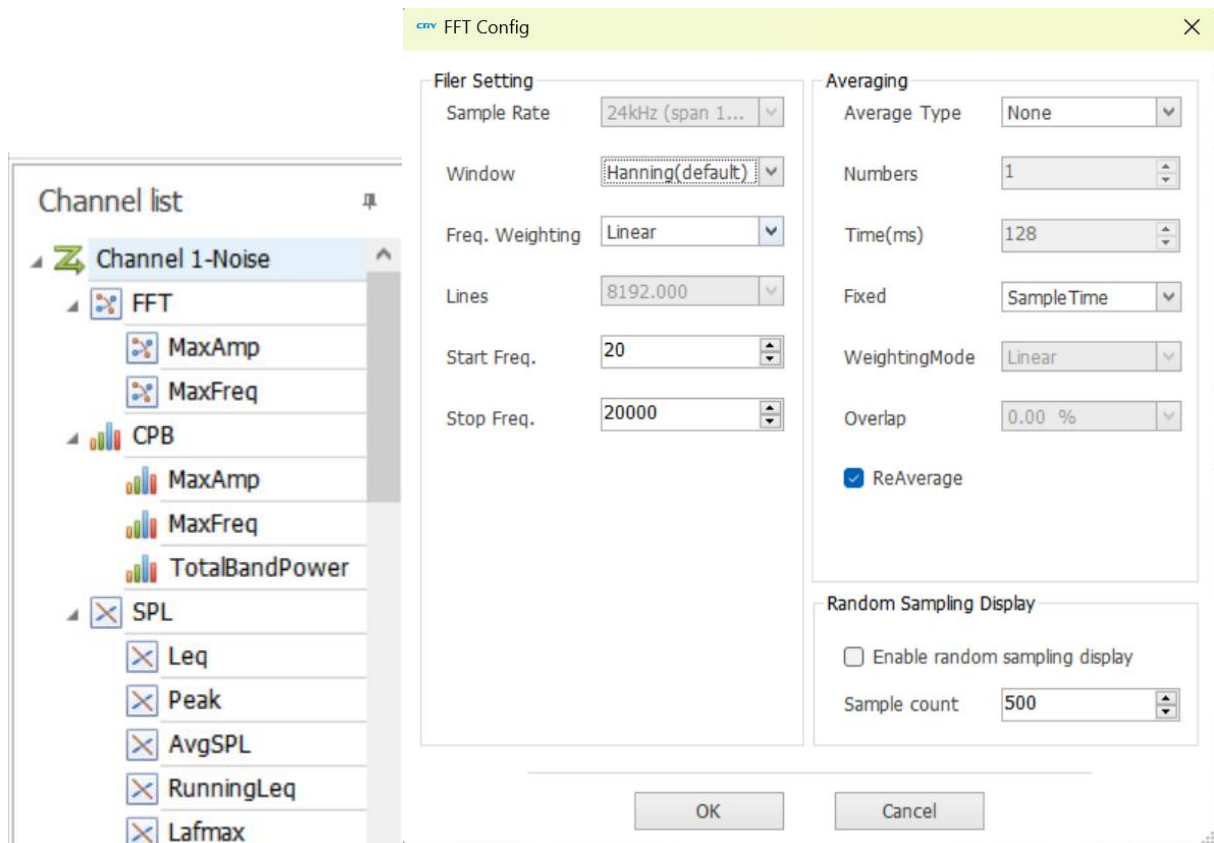

Figure 9. FFT Configuration Interface
- **Delete** test item, as shown in Figure 9;